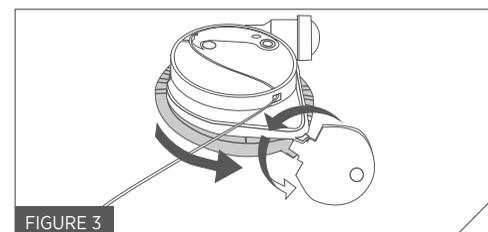

FIGURE 3
4. Turn the key counter clockwise (if you're right handed, this is toward you). As you turn, you are creating a wedge to open up space between yellow and black – the black locking ring will turn left, opposite the yellow piece (Fig. 3).